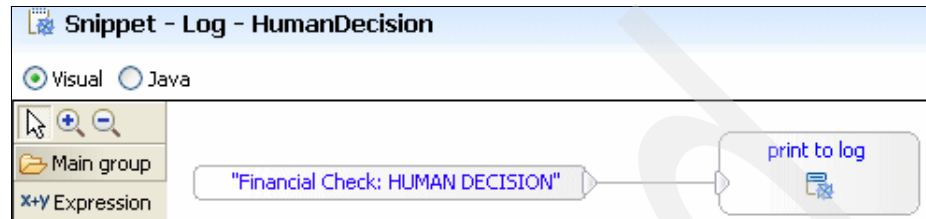

Figure 3-64 Log - Human Decision on financial path
- Build the snippet as shown in Figure 3-64.